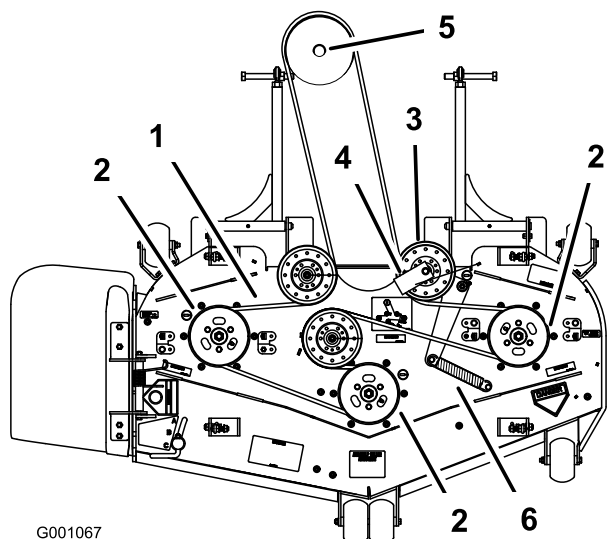

Figure 68
8. Install the new belt around the mower pulleys and the gearbox pulley under the engine (Figure 68).
9. Install the belt guide on the spring loaded idler at a 45 degree angle as shown in Figure 68.
11. Install the idler spring to the 2 posts (Figure 68).